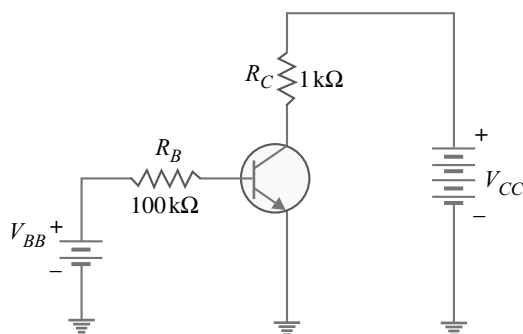

Fig. 6.84
19. A base current of 50 μA is applied to the transistor in Fig. 6.84 and a voltage of 5 V is dropped across  $R_C$ . Calculate  $\alpha$  for the transistor. [0.99]